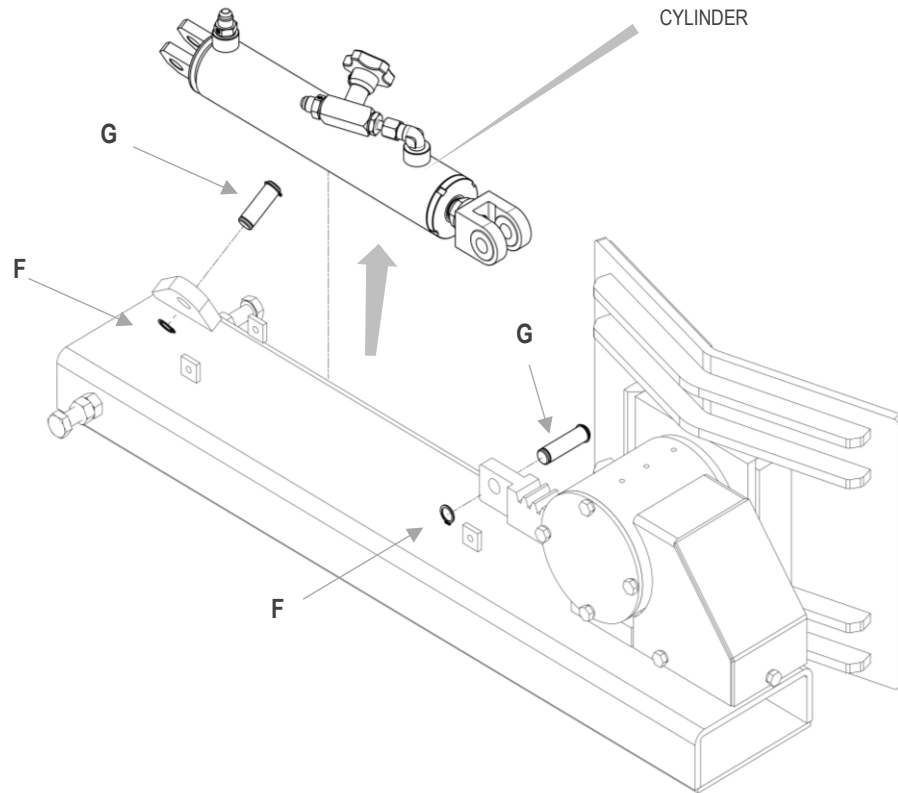

Figure 44
3. Remove the snap ring **F** at the rear of the cylinder, and pull out the pin **G** that secures the cylinder to the bracket. Carry out the same procedure for the pin that secures the front of the cylinder (see Figure 44)